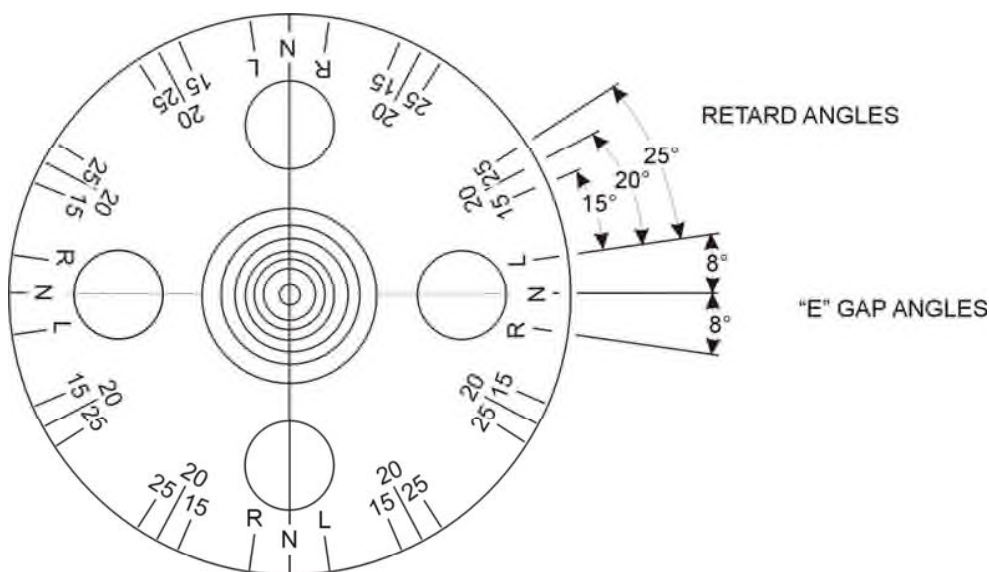

Figure 5-4. Timing Marks on Rotating Magneto
*(4) Internal Timing – Dual Magneto –*
- (e) Back the engine up a few degrees and again bump forward toward number one cylinder firing position until pointer is aligned with 15° retard timing mark. See Figure 5-4. Retard breaker should just open at this position.